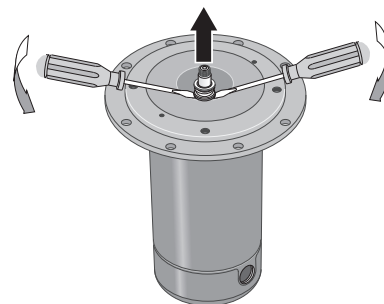

FIGURE 14 - REMOVE SEAL PLATE
3. Remove rotating half of seal by placing two screwdrivers under seal ring and carefully prying up (Figure 14).